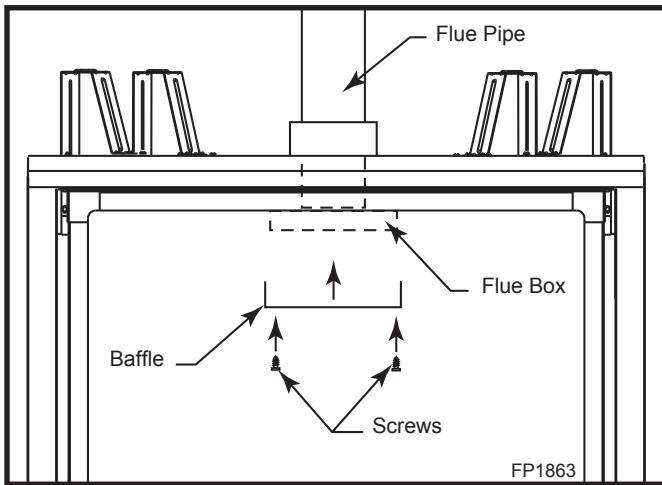

Fig. 15 Install baffle to the deflector.
In conjunction with the deflector over the air inlet, there is a flue baffle. The baffle is shipped under the fireplace. Remove the two (2) screws from the flue deflector and secure the baffle to the deflector. (Fig. 15)